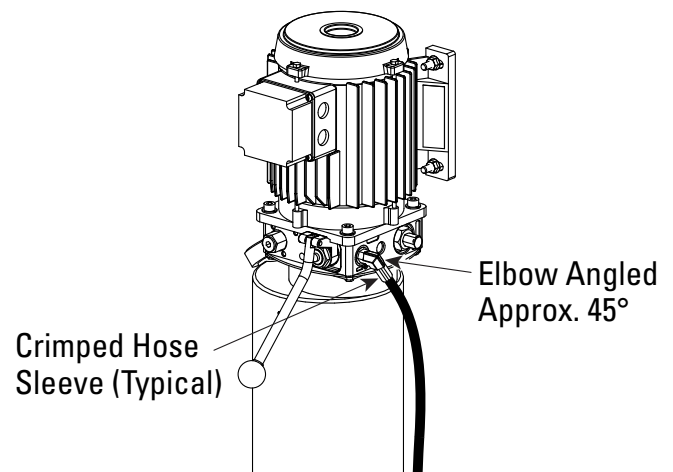

Fig. 22
- D. Install and hand tighten elbow to pump until O-ring is seated and elbow is oriented downward at approximately 45°, Fig. 22. Continue to tighten the locknut to 10-15 ft-lbs. (14-20 Nm), or until the nut and washer bottom out against the pump manifold. Clean elbow and hose. Inspect all threads for damage and hose ends to be sure they are crimped. Attach hose to elbow using Flared Fittings Tightening Procedure.